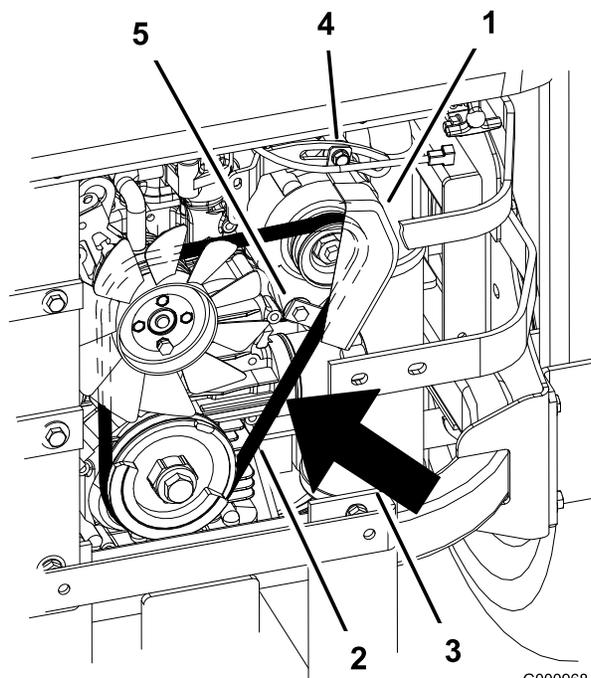

Figure 72
- Loosen the bottom bolt and remove the upper bolt holding the alternator and cover (Figure 72).
- Install a new belt around the pulleys and the alternator (Figure 72).
- Tighten the bottom bolt and install the upper bolt holding the alternator and cover (Figure 72).
- Adjust the alternator to the outside until there is 1/4 to 11/32 inch (7 to 9 mm) deflection in the belt between the engine and the alternator pulleys with 22.1 lbs of force (10 kgf) (Figure 72).
- If the deflection is correct, tighten the bottom and upper bolt (Figure 72).